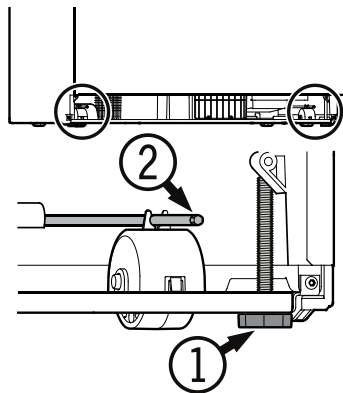

Figure 17
## Leveling the Appliance - Figure 17
To prevent the appliance from tipping forward the leveling feet (1) (Figure 17) must have contact with the floor.